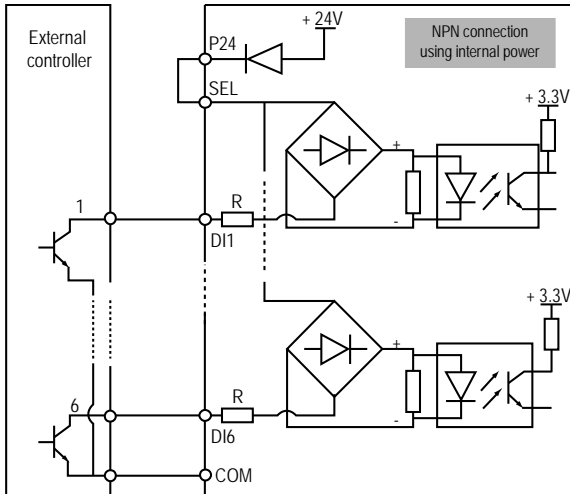

Figure 4-17 NPN signal input connection when using internal 24V power
3. If the inverter's internal 24V power supply is used, the common emitter output connection of NPN transistor in the external controller is as shown in Figure 4-17.